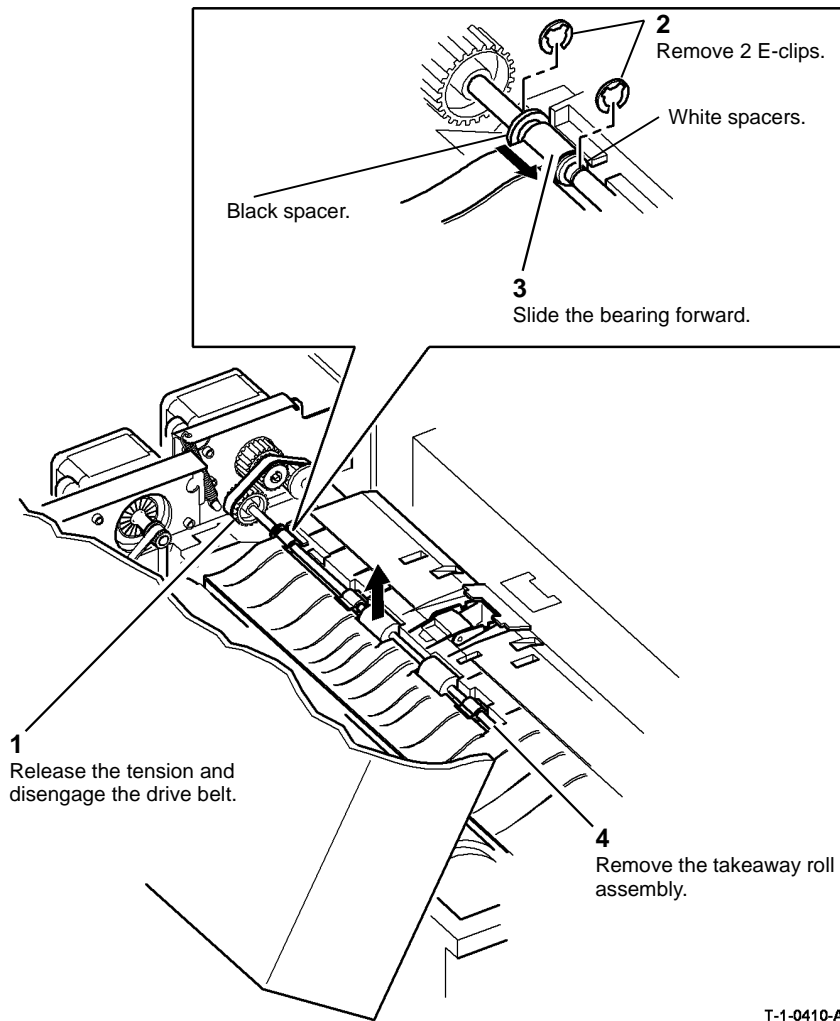

Figure 1 Takeaway roll assembly
- Remove the takeaway roll assembly, Figure 1.
The replacement is the reverse of the removal procedure. Make sure the spacers and E-clips are installed correctly, refer to Figure 1.